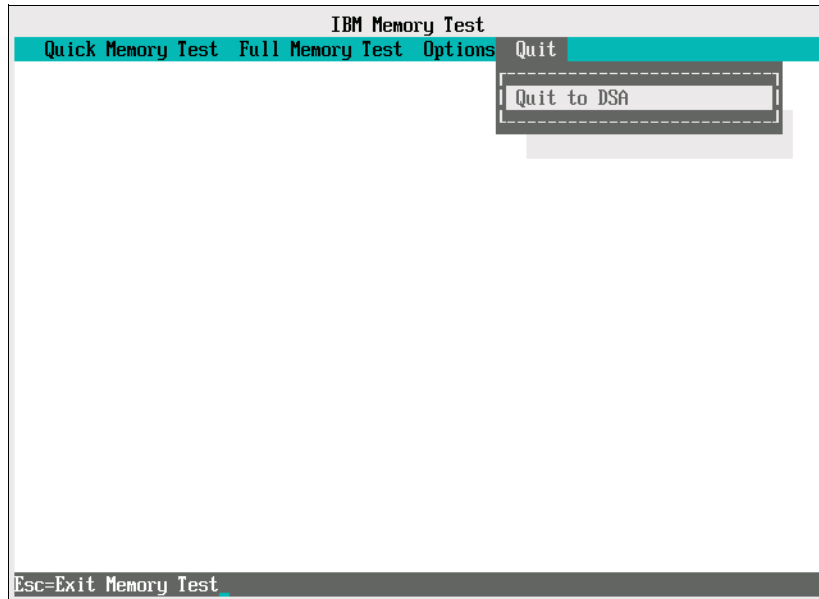

Figure 3-14 System memory test page
- The IBM Memory Test page opens. Use the arrow keys to select **Quit** and press Enter to exit the memory test, as shown in Figure 3-14.